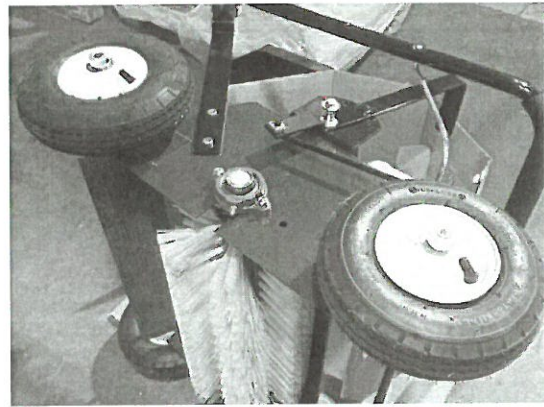

FIGURE 1
1. Disconnect spark plug, remove gas and oil then tip the machine on its side, engine to the floor (Fig. 1).